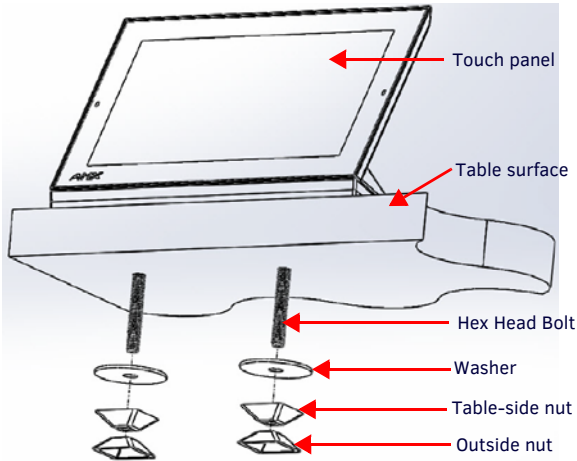

FIG. 3 INSTALLATION, UNDERSIDE OF THE TABLE SURFACE
- On the underside of the table, put a washer and then one of the tamper-proof nuts on the end of each Hex Head Bolt (FIG. 3). Make sure that the wide side of the tamper-proof nut is facing the underside of the table. Finger-tighten the tamper-proof nut.
- Attach the spare outside nut to the end of the Hex Head Bolt, wide side away from the table, and finger-tighten to the table-side nut (FIG. 3).